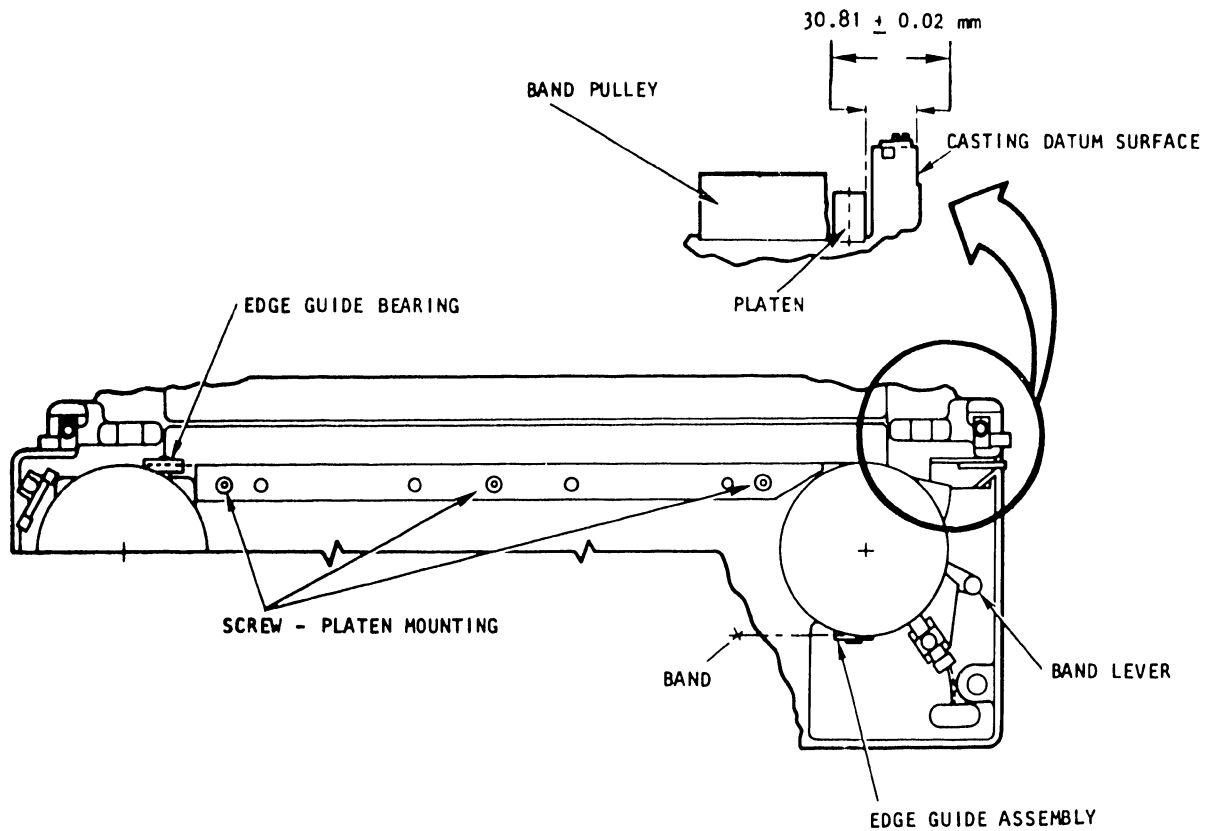

Figure 3-6. Platen Assembly Adjustment
### 3.3.2 Platen Adjustment (Figure 3-6)
- f. Set the platen clearance to  $30.81 \pm 0.02$ mm ( $1.21 \pm 0.0008$  inches) from the datum casting surface as shown in **figure 3-6**.
- g. Using a 40 in/lb torque screwdriver and a 4mm hex key, tighten the three (3) screws loosened in **step e** to 4 N/m (35.4 in/lbs).